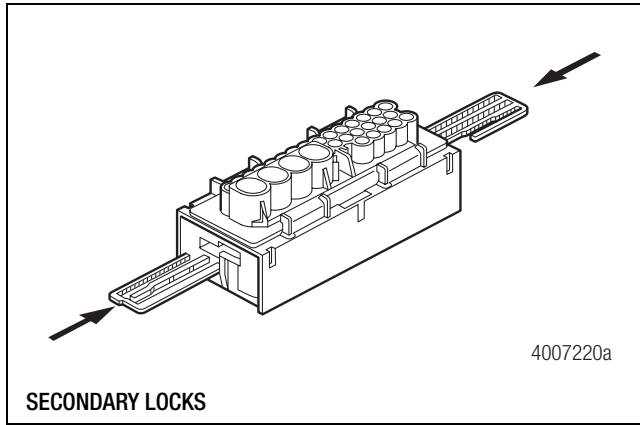
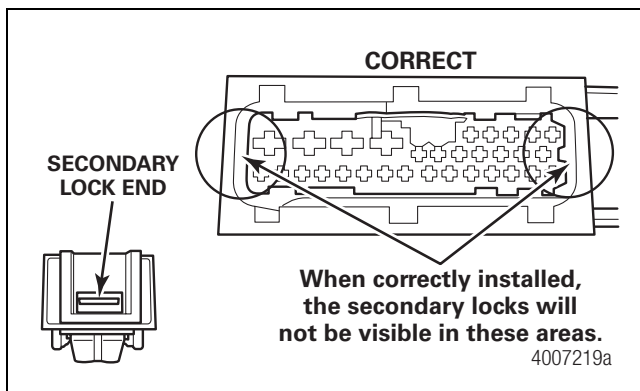
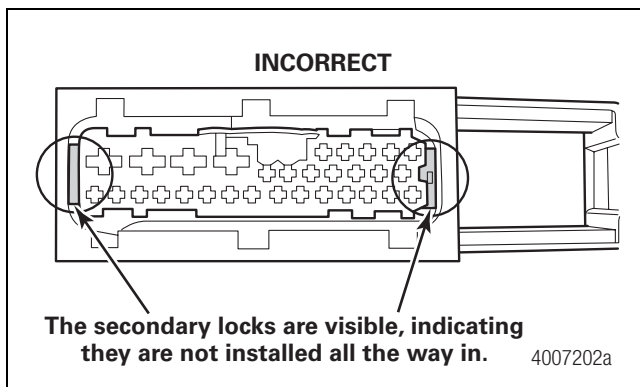

Figure 2
Figure 3
Figure 4
- View the terminal side of the 31-pin connector. Check for proper installation of the two secondary locks installed at opposite sides of the connector. The secondary locks assist in securing the terminals in the connector shell. Correct installation of the secondary locks is critical for proper seating of the connector on the HCU ECU. Figure 2, Figure 3 and Figure 4.